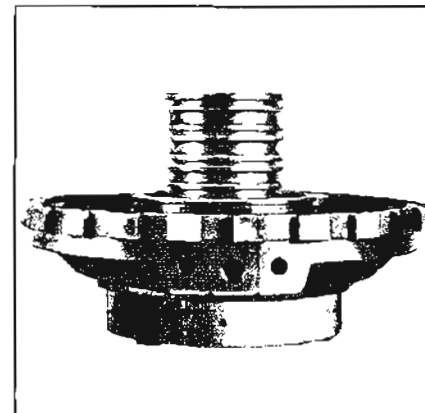

Figure 5-653
4. Air check the oil passages to be sure they are open and not interconnected. See Figure 5-653.